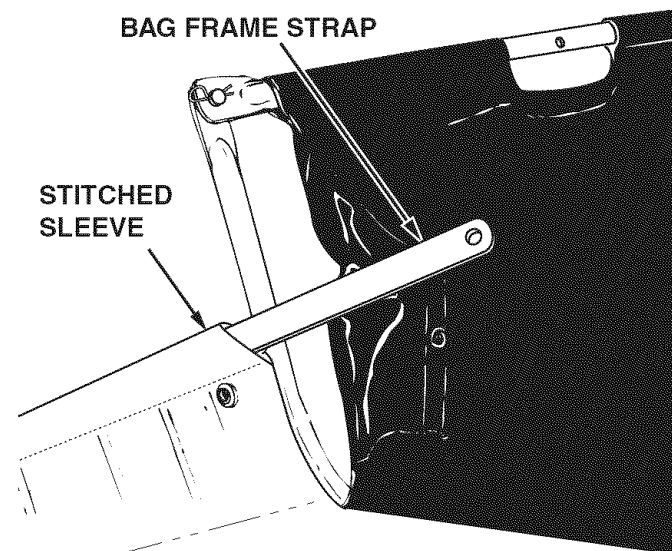

FIGURE 12
- Insert the bag frame strap into the stitched sleeve at the front edge of the bag bottom. See figure 12.